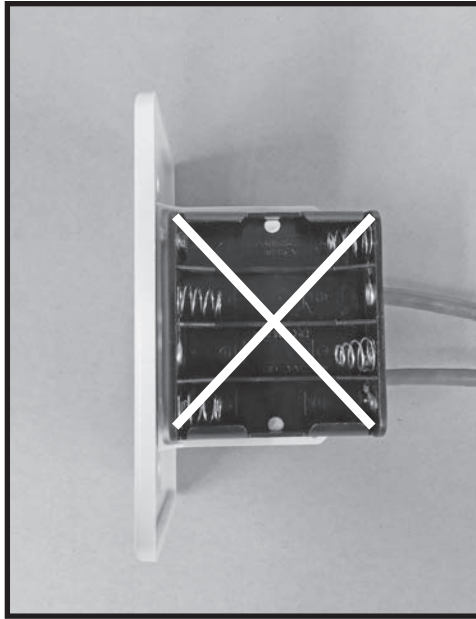

Figure 29: Do not install batteries in this wall switch.
8. **Do not install batteries into the wall switch (Figure 29). Battery holder must remain empty.**